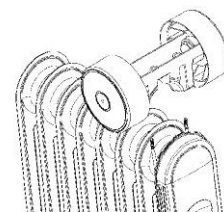

Figure 6
- Join together the bracket and the roller-leg axe (figure 6 and 7).